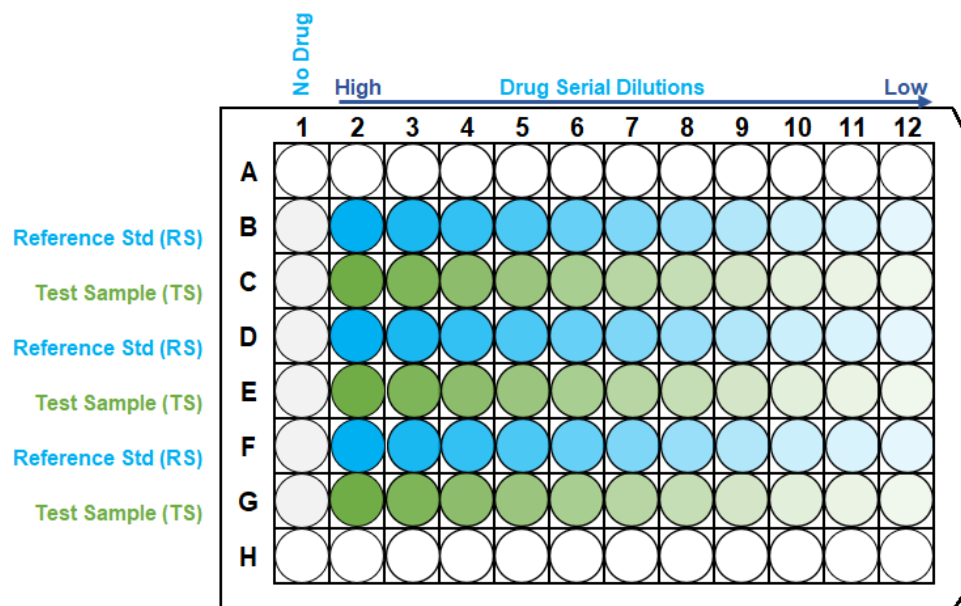

Figure 2. Representative Assay Plate Map
- Transfer 20 μ L of the 5X sample dilutions from the MDP to the appropriate wells containing cells in the assay plate. Refer to example in Figure 2. Representative Assay Plate Map:
2. Remove the assay plate containing cells (prepared in Section 8.1) from the 37°C and 5% CO₂ incubator and transfer 20 µL from each row of samples in the MDP to the appropriate wells of the assay plate. See Representative Assay Plate Map \(Figure 2\) for recommended sample layout.